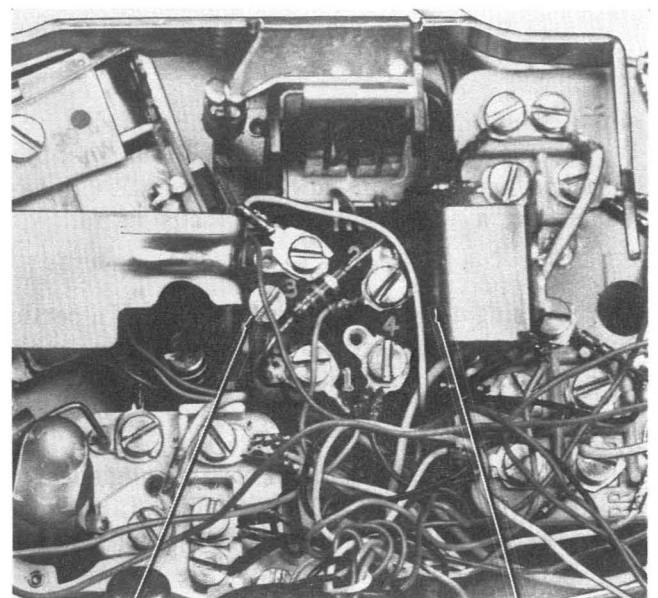
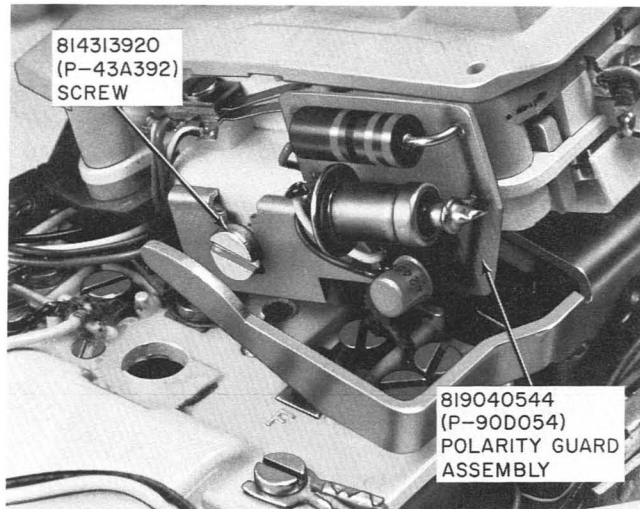

Fig. 4—Installing Terminal Board in PRINCESS Telephone Set
Fig. 5—Polarity Guard Mounted in PRINCESS Telephone Set
- Add Fig. 4, 8, 10, 12, and 14
- (3) Insert tabs of terminal board into notches in right-hand dial mounting bracket and secure to retainer Fig. 4.
- (4) Connect polarity board in accordance with Table I.
- (5) Reinstall dial on mounting bracket, securing the guard assembly mounting bracket under the right-hand dial mounting screw (Fig. 5).
- (6) Reinstall housing.